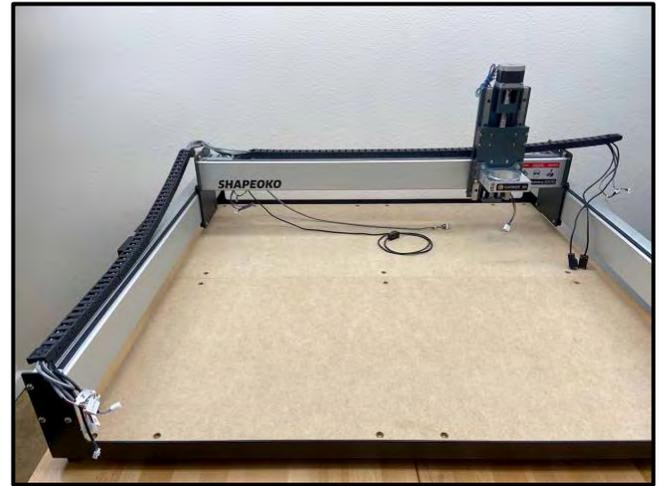

Figure 35
2. Lay the drag chain on the rails. See **Fig. 35**.